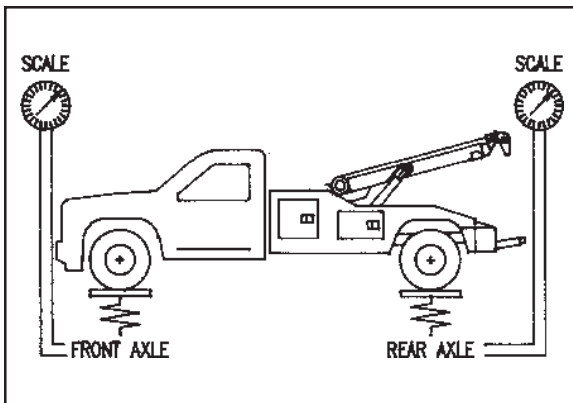

Figure 5-1.
1. Weigh the truck at its front and rear wheels and note the weight in either pounds or kilograms. Make sure the truck has a full tank of fuel, that the driver is in the cab, and that the truck is unloaded, except for usual towing equipment. On trucks with tandem axles, include the combined weight of both rear axles. (See Figure 5-1.)